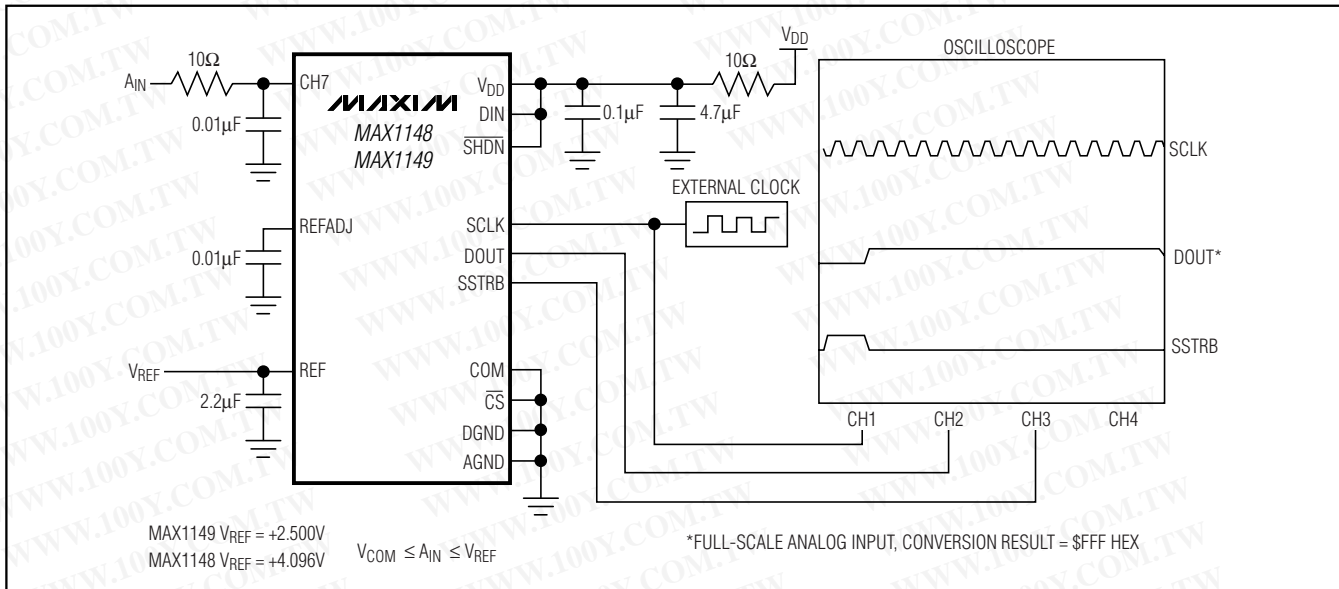
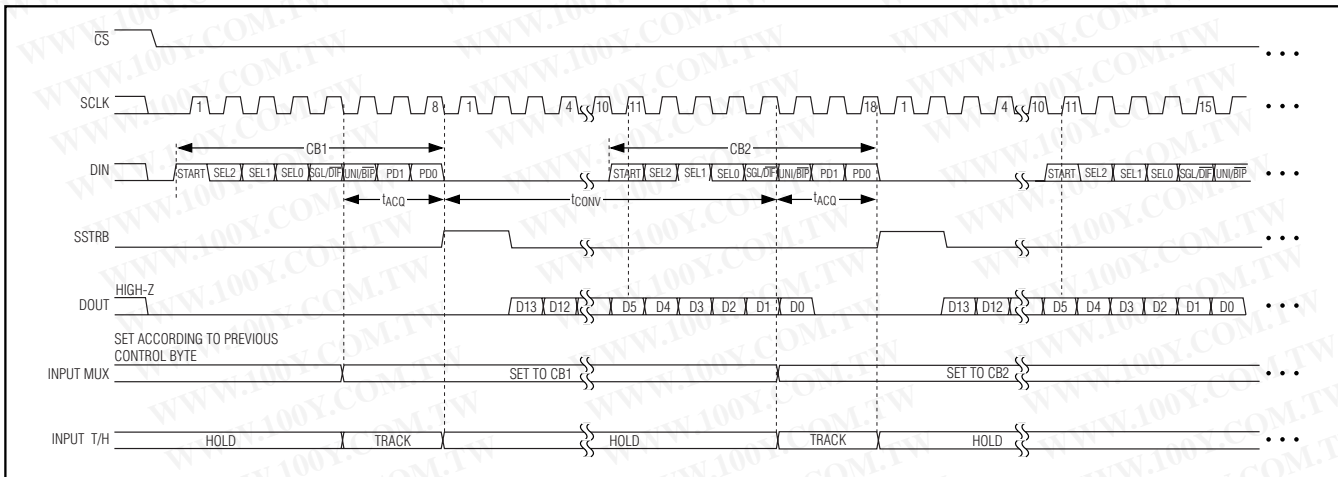

Figure 7. Quick-Look Circuit
Figure 10. External Clock Mode—18 Clocks/Conversion Timing
Use the circuit of Figure 7 to quickly evaluate the MAX1148/MAX1149. The MAX1148/MAX1149 require a control byte to be written to DIN using SCLK before each conversion. Connecting DIN to  $V_{DD}$  and clocking SCLK feeds in a control byte of \$FF HEX (see Table 1). Trigger single-ended unipolar conversions on CH7 in external clock mode without powering down between conversions. In external clock mode, the SSTRB output pulses high for two clock periods before the MSB of the 14-bit conversion result is shifted out of DOUT. Varying the analog input to CH7 alters the sequence of bits from DOUT. A total of 18 clock cycles are required per conversion (Figure 10). All transitions of the SSTRB and DOUT outputs occur on the falling edge of SCLK.
- 2) The first high bit clocked into DIN after bit 5 of a conversion in progress is clocked onto DOUT (Figures 10 and 11).
The fastest the MAX1146-MAX1149 can run with  $\overline{CS}$  held low between conversions is 18 clocks per conversion. Figures 10 and 11 show the serial-interface timing necessary to perform a conversion every 18 SCLK cycles.